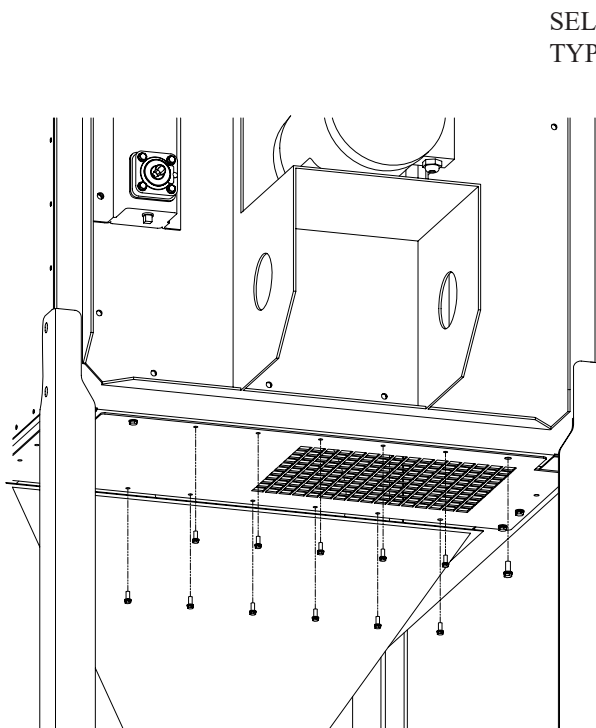

FIGURE 16A
3. Remove the bolts and screws from exhaust grille (see Figure 16A).